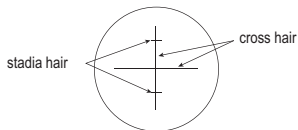
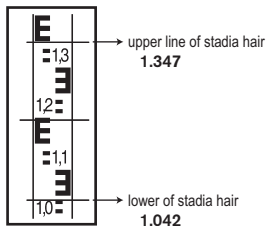

fig.5
fig.6
1. Aiming the leveling rod, record the value of upper and lower stadia hair (see fig.5) against the position of leveling rod (see fig.6)